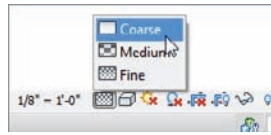

FIGURE 2.17 Sometimes, setting the graphic display to Coarse can make the placement of other walls easier.
6. On the View toolbar, set the detail level to Coarse, as shown in Figure 2.17.